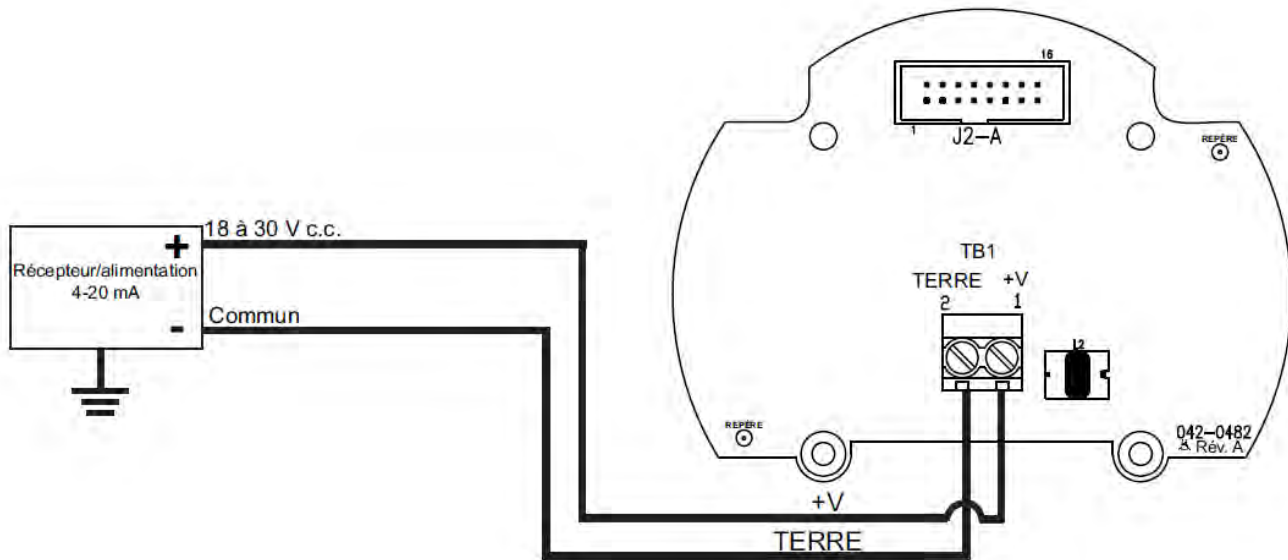

Figure 4-16: Connection for 2-Wire
5. Connect positive (+) and negative (-) leads from VDC power supply wires to TB1 on the 2-wire power supply PCB. Specifically, the positive (+) connects to Pin1 (+V) and negative (-) connects to Pin2 (GND) on TB1 (refer to Figure 4-16: Connection for 2-Wire for details).